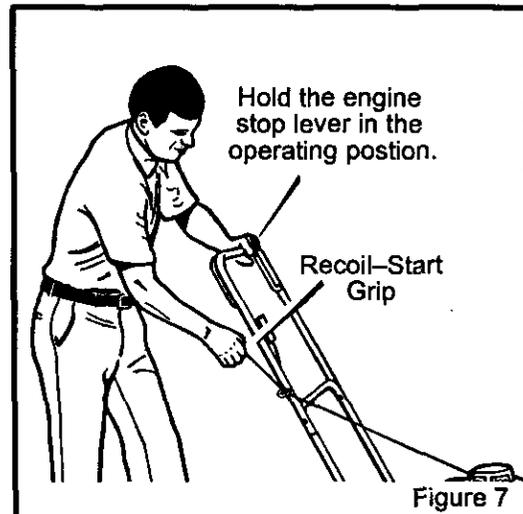

Figure 7
5. Stand behind the mower (Figure 7). Use one hand to hold the **engine stop lever** in the operating position as shown. Use the other hand to hold the **recoil-start grip**.